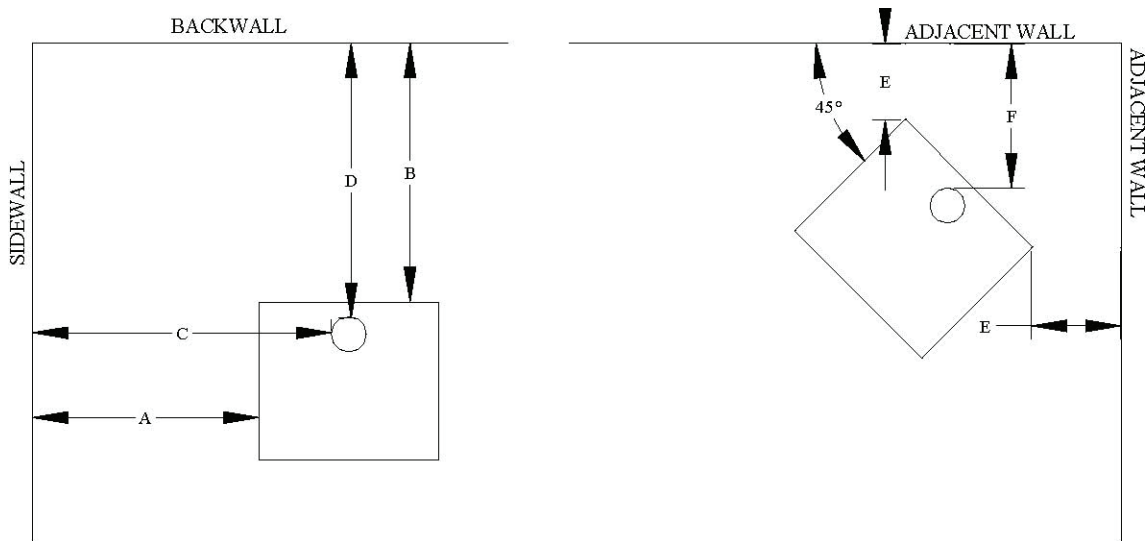

FIGURE 1: MINIMUM FREESTANDING CLEARANCE DIAGRAMS
- FIGURE 1 shows how to measure freestanding clearances for Country Flame catalytic models covered by this manual. Table 1 provides minimum clearances for specific models that must be maintained in FIGURE 1. The installer should familiarize themselves with FIGURE 1 and TABLE 1, understand MINIMUM CLEARANCE requirements, incorporate, and maintain these clearances during installation.
TABLE 1: MINIMUM CLEARANCES, IN INCHES, REFER TO FIGURE 1
EXAMPLE: The rear clearance defined for a Model B (FIGURE 1 and TABLE) measurement B, is listed as twenty inches (20", 500mm.) This rear clearance, for a Model B may be reduced up to 66% but never less than twelve inches (12", 300mm) by using either of the wall protection procedures listed in ITEM 5 and ITEM 6.